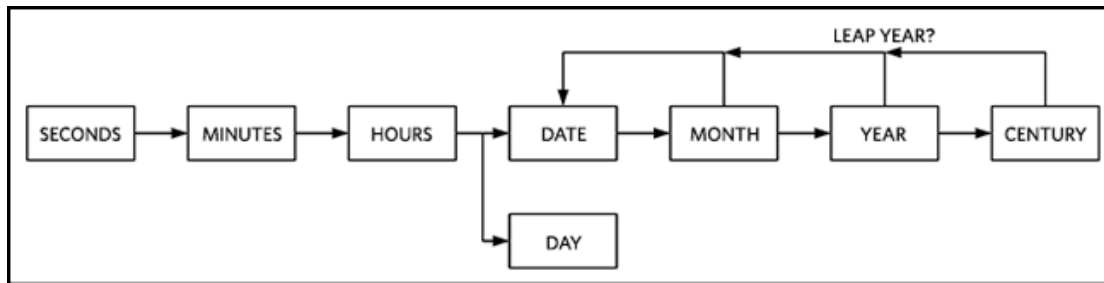

Figure 1. RTC counter chain.
**Load Initial Counter (Time) Values:** Again referring to the product's specification and register map, the order of counter loading or reading should be executed *from least significant count to the most significant count*. **Figure 1** illustrates the counter orientation and carry functions for a typical BCD-formatted real-time clock component.